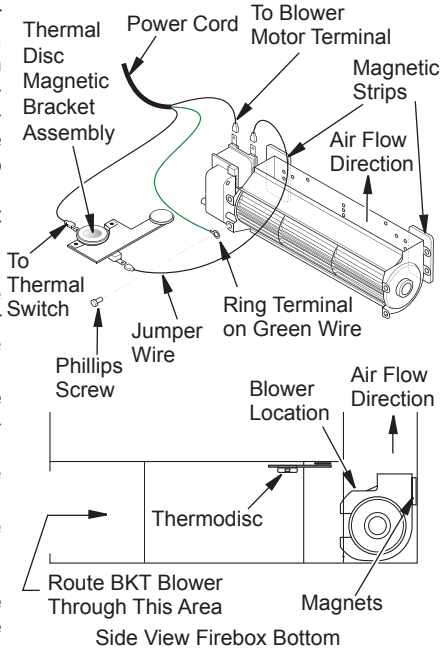

Figure 28 - Blower Model BKT
1. Attach green ground wire from power cord to blower housing using screw provided (see Figure 28) Tighten screws securely with a Phillips screwdriver.
3. Place the blower against the lower rear wall of the firebox outer wrapper with the exhaust port directed upward. Attach Thermal disc magnetic bracket to the bottom of the firebox sub-floor. The thermo-disc must be oriented near the fireplace bottom as shown in Figure 28, in order to sense temperature and properly operate. The blower will be held in position against the back wall by the magnets incorporated onto the blower housing (see Figure 28).